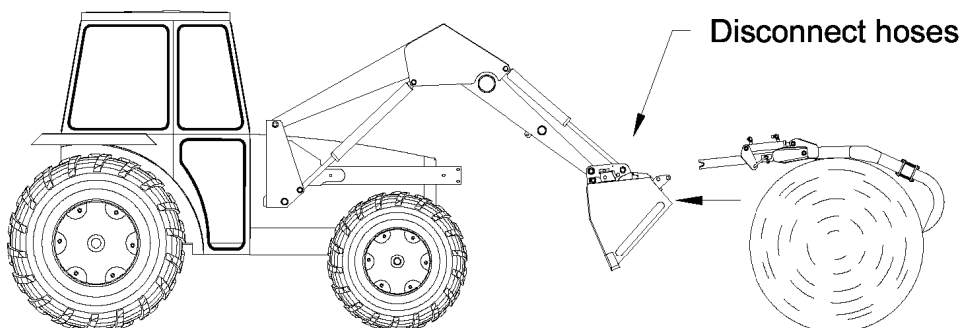

Figure 3
4. Back out slowly. Grapple will slide out of mount bracket weldments (Figure 3).